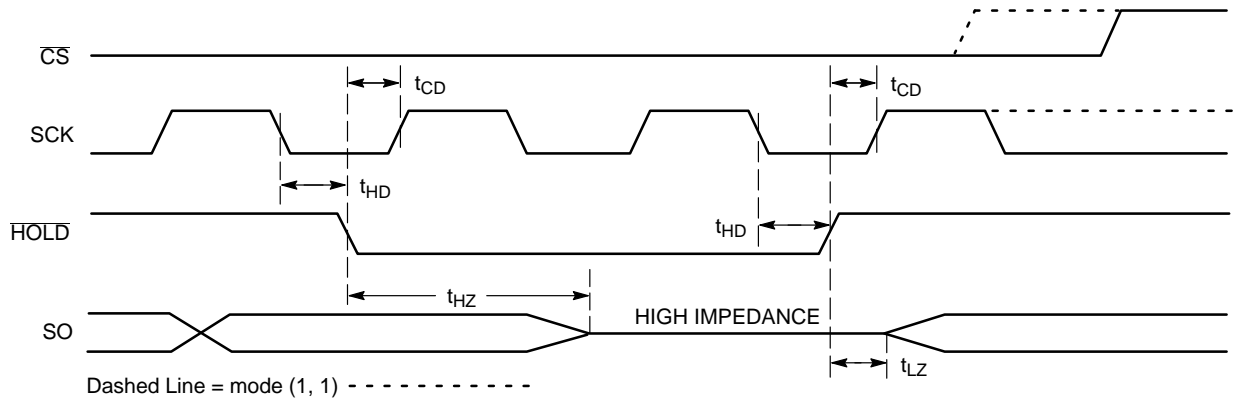

Figure 11. $\overline{\text{HOLD}}$ Timing
The $\overline{\text{HOLD}}$ input can be used to pause communication between host and CAS25256. To pause, $\overline{\text{HOLD}}$ must be taken low while SCK is low (Figure 11). During the hold condition the device must remain selected ($\overline{\text{CS}}$ low). During the pause, the data output pin (SO) is tri-stated (high impedance) and SI transitions are ignored. To resume communication, $\overline{\text{HOLD}}$ must be taken high while SCK is low.